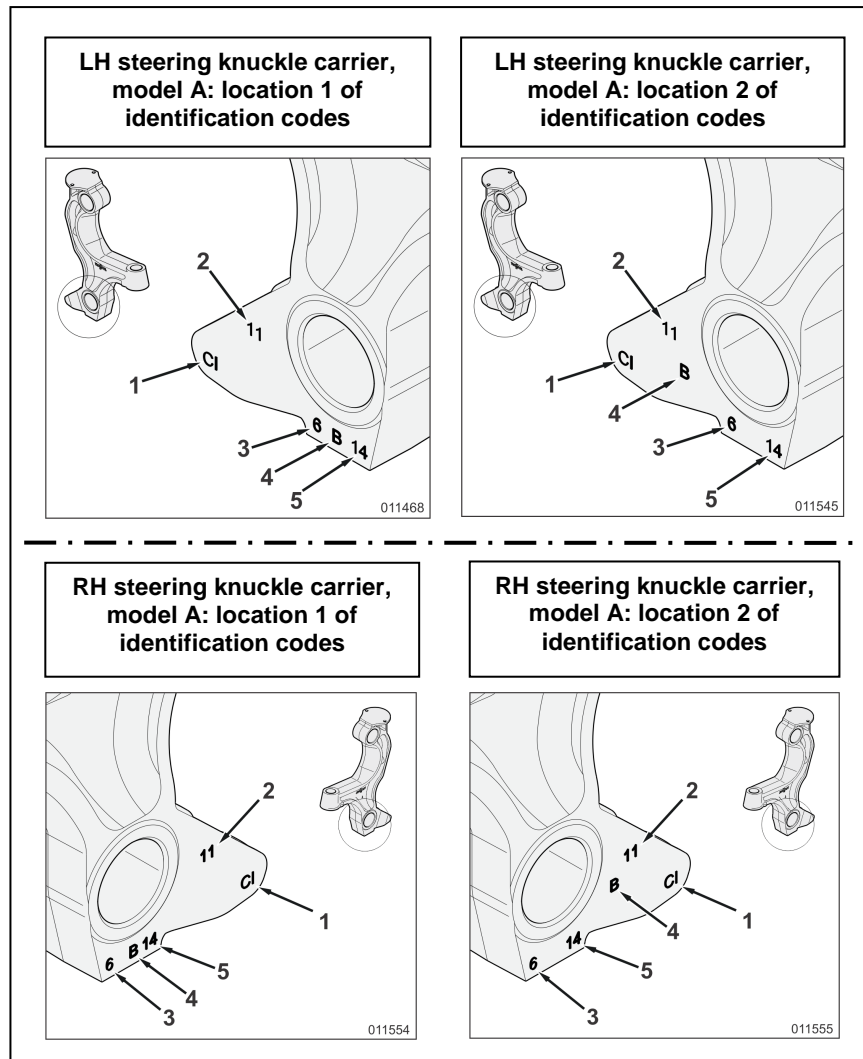

Figure 1B: Identification of model A steering knuckle carriers (location may vary)
- If yes, fill out the letters “CI” in field (1) of the table. Locate the four other identification codes of the RH steering knuckle carrier (refer to figure 1B) and fill out the codes of the RH steering knuckle carrier in the table below for reference during registration. Fill out “Not readable” in case of not readable codes.
- If not, fill out the letters “CF” in field (1) of the table. The other fields of the table may remain blank.
(1)	(2)	(3)	(4)	(5)